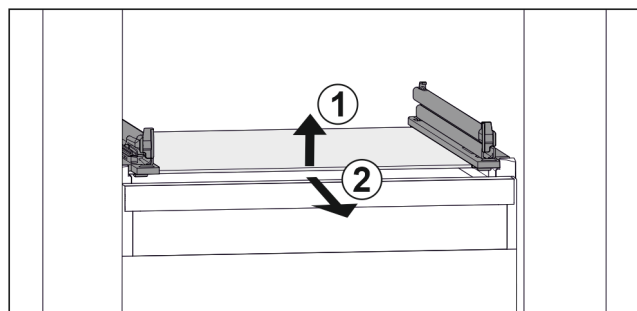

Fig. 155 Example illustration of glass shelf
- ▶ Lift glass shelf at the front. *Fig. 155 (1)*
- ▶ Take out glass shelf to the front. *Fig. 155 (2)*